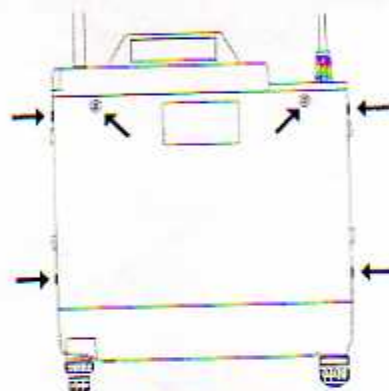

Figure 1
- ☐ Disconnect all cables and the microphone, and turn the transceiver upside-down. Referring to Figure 1, remove the six screws affixing the bottom cover.